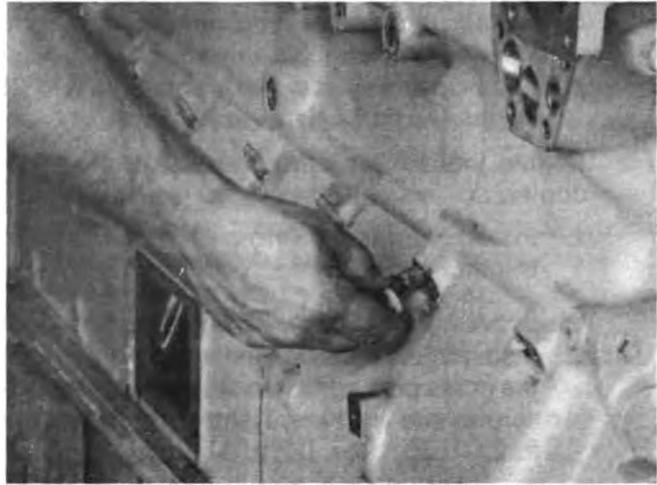

Fig. 14-77. Install The Piston Cooling Nozzles.
2. Install the nozzles into the cylinder block, Fig. 14-77. Tighten the slotted head screw to 60 to 96 in.-lbs. [7 to 11 N•m] torque. Tighten the hex head screw to 100 to 140 in. lbs. [11 to 15.8 N•m] torque, Fig. 14-78.